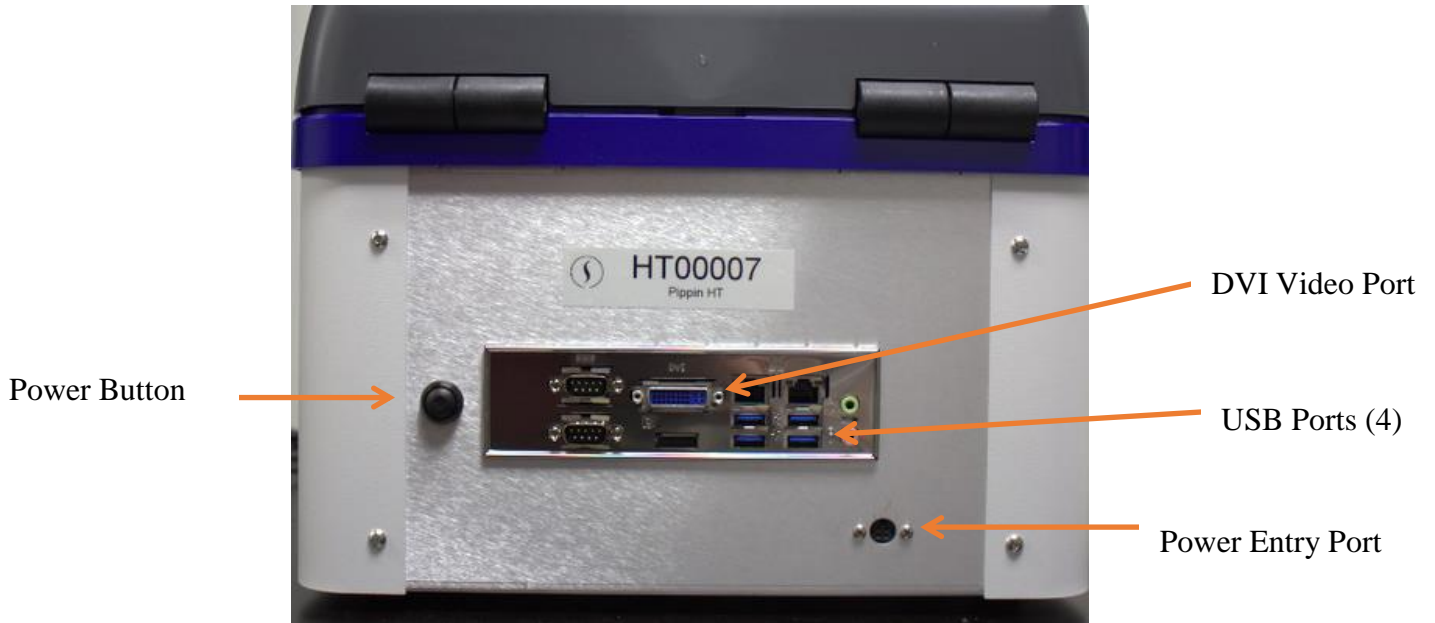

Figure 3.1 Rear Panel of the PippinHT
5. Connect the LCD monitor (VGA port, under the screen) to the PippinHT (DVI port, back panel, see Figure 3.1) using supplied video cable.
8. Insert USB connector from the computer **keyboard** into any USB port located on the back panel of the PippinHT (Figure 3.1).
9. Insert USB connector from the computer **mouse** into any USB port located on the back panel of the PippinHT (Figure 3.1).
10. Connect PippinHT instrument to the power outlet using the PippinHT power supply and power cable. The power input connector is in the lower right hand corner on the back panel of the PippinHT (Figure 3.1).
12. Press the power button. It is located on the left side of the back panel (Figure 3.1).